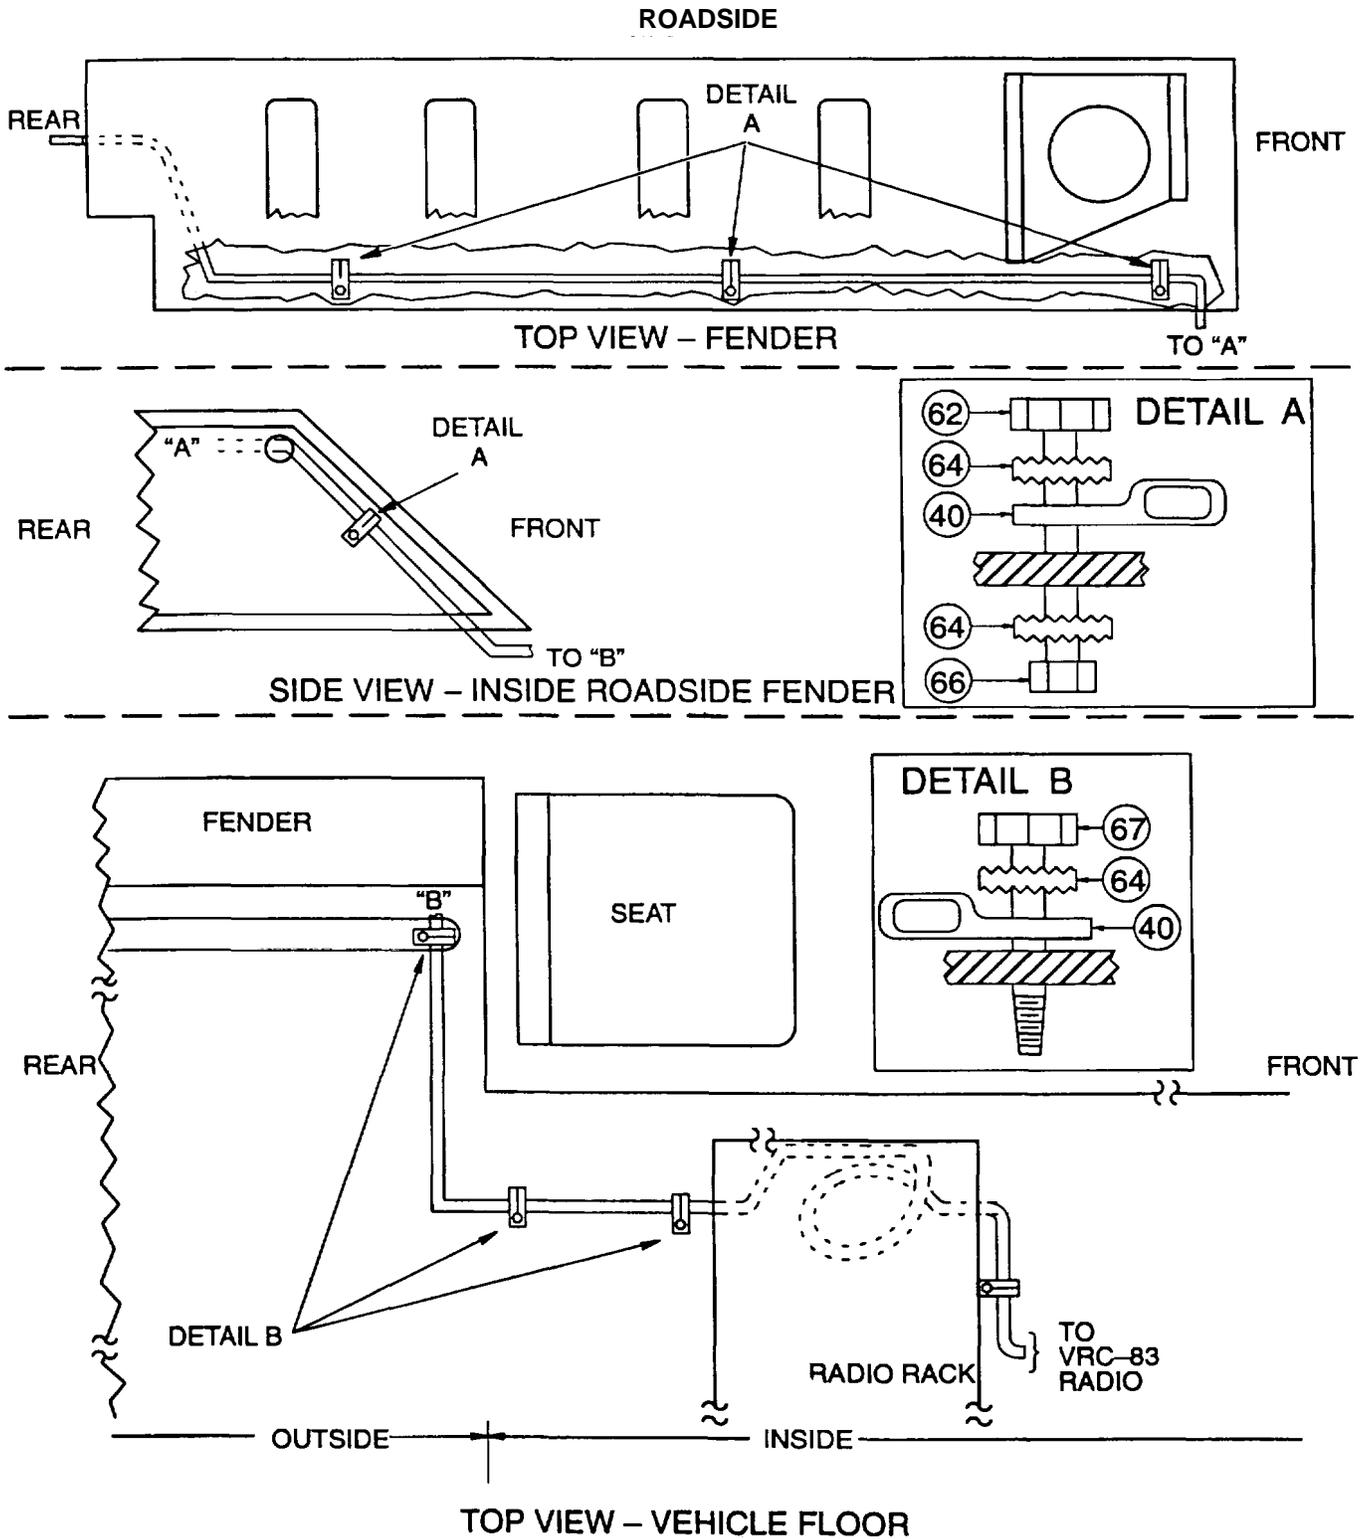

Figure 2-12. Antenna Cable (Without Heat Shield) Installation Cable Routing Diagram
2-16.1.3 Installation Procedure. Refer to Figure 2-12 and proceed as follows:
- o. Install cable loop clamp (40) on antenna cable.
- p. Insert hex cap screw (62) through starwasher (64) and cable loop clamp mounting hole. Insert hardware combination into shelf drilled hole.
- q. At inside of bottom shelf, place starwasher (64) and hex nut (66) on hex cap screw (62).
- t. Refer to Figure 2-12. Form a loop of excess antenna cable and tiwrap the loop. Place the excess cable loop under the radio rack bottom shelf.